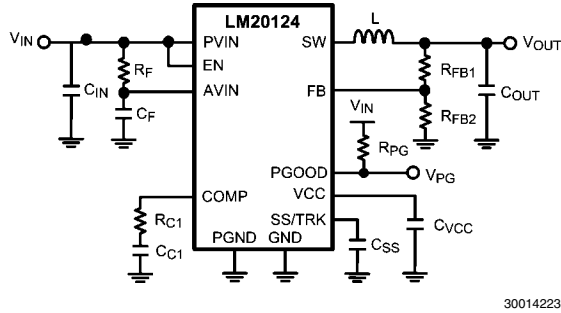

FIGURE 2. Typical Application Circuit
The LM20124 switching regulator features all of the functions necessary to implement an efficient low voltage buck regulator using a minimum number of external components. This easy to use regulator features two integrated switches and is capable of supplying up to 4A of continuous output current. The regulator utilizes peak current mode control with nonlinear slope compensation to optimize stability and transient response over the entire output voltage range. Peak current mode control also provides inherent line feed-forward, cycle-by-cycle current limiting and easy loop compensation. The fixed 1 MHz operating frequency minimizes the inductor size while still achieving efficiencies up to 96%. The precision internal voltage reference allows the output to be set as low as 0.8V. Fault protection features include: current limiting, thermal shutdown, over voltage protection, and shutdown capability. The device is available in the eTSSOP-16 package featuring an exposed pad to aid thermal dissipation. The LM20124 can be used in numerous applications to efficiently step-down from a 5V or 3.3V bus. The typical application circuit for the LM20124 is shown in *Figure 2* in the design guide.
This section walks the designer through the steps necessary to select the external components to build a fully functional power supply. As with any DC-DC converter numerous trade-offs are possible to optimize the design for efficiency, size, or performance. These will be taken into account and highlighted throughout this discussion. To facilitate component selection discussions the circuit shown in *Figure 2* below may be used as a reference. Unless otherwise indicated all formulas assume units of amps (A) for current, farads (F) for capacitance, henries (H) for inductance and volts (V) for voltages.
pins, a high frequency RC filter is required between PVIN and AVIN. These components are shown in *Figure 2*. as C_F and R_F . The required values for R_F and C_F are 1Ω and 1 μF respectively. The filter capacitor, C_F should be placed as close to the IC as possible with a direct connection from AVIN to AGND. A good quality X5R or X7R ceramic capacitor should be used for C_F .